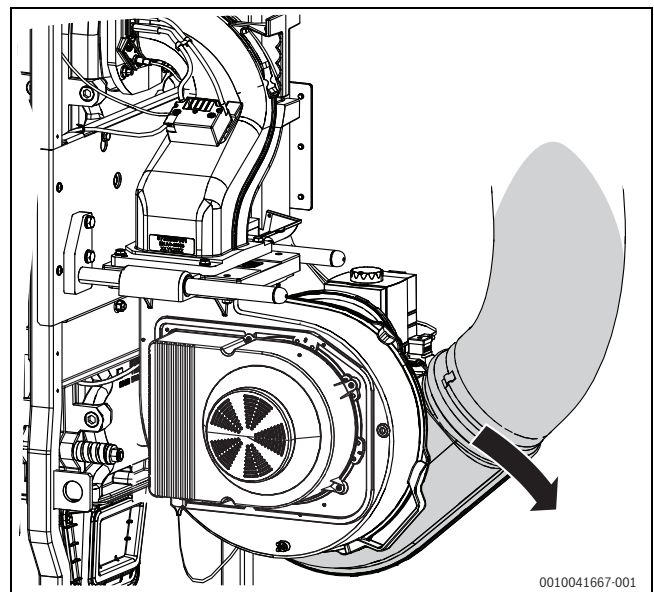

Fig. 5 Turn the inlet duct of the fan downwards
- ▶ Turn the inlet duct of the fan downwards (→Fig. 5).